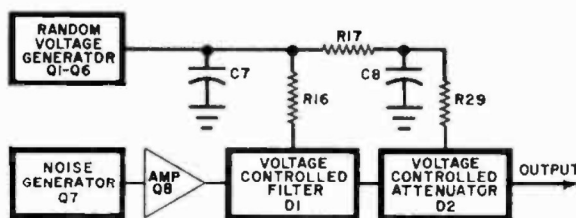

Fig. 2. Block diagram shows how random signal is filtered and level controlled by integrated random voltages from three sets of multivibrators.
**Design Analysis.** A complete schematic of the Surf Synthesizer is shown in Fig. 1, but it is convenient to break the unit down into blocks as shown in Fig. 2. There are a noise source; voltage-controlled, low pass filter (VCF); voltage-controlled attenuator (VCA); and random voltage generator.